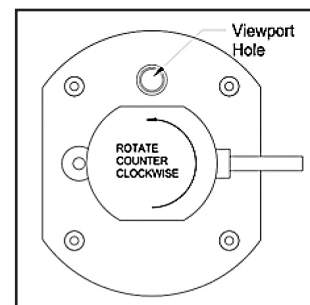

Figure 9
(See Figure 9)
6. Position the ballast assembly power cord 90° to the viewport hole on the mounting base. (See Figure 9)